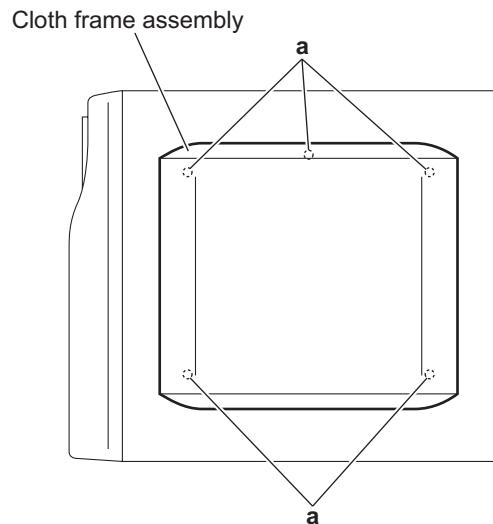

Fig.1
3.3.1 Removing the cloth frame assembly (See Fig.1)